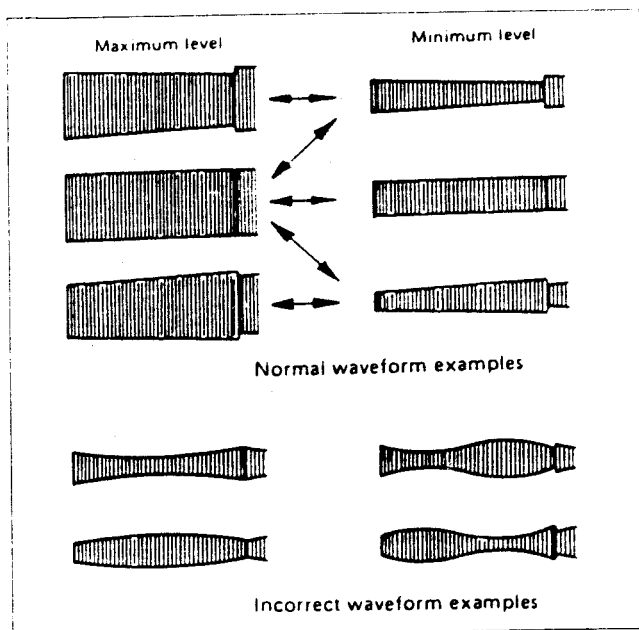

Fig. 2-5-4
- 2) Connect the oscilloscope to TP506 (PB FM) on the PRE/REC AMP board. Use TP511 (DRUM FF) as a trigger. Confirm that the RF envelope appears, as in Fig. 2-5-4.
- 5) Turn the tool first to position the A/C head fully toward the capstan. Then gradually return it toward the drum and stop at the position of maximum FM waveform output level as shown in Fig. 2-5-4.
- 6) Tighten screw ⑤. Remove the tool and tighten screw ④.
- 2) Connect the oscilloscope to TP506 (PB FM) on the PRE/REC AMP board. Use TP511 (DRUM FF) as a trigger. Confirm that the envelope appears, as in Fig. 2-5-4.